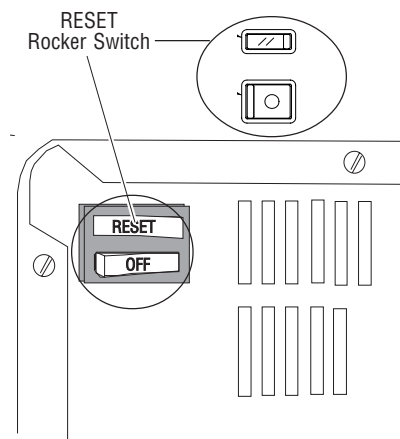
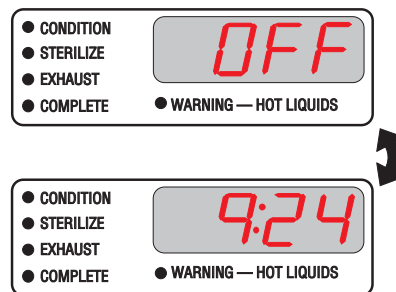
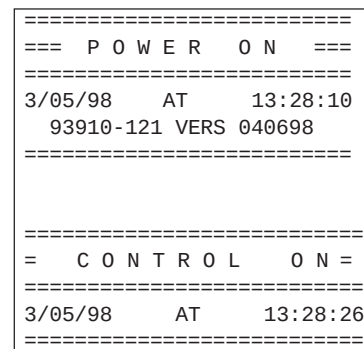

**Figure 3-9**
**Figure 3-10**
**Figure 3-11**
8. Press the RESET rocker switch on the rear of the sterilizer (Figure 3-9). The front panel display will alternate between OFF and time of day (see Figure 3-10). The optional printer will print "POWER ON" (see Figure 3-11).
9. Press the ON/STANDBY touch pad and verify that the indicator light turns on and TIME is displayed (see Figure 3-12). The heaters will begin to cycle to preheat the chamber. The optional printer will print "CONTROL ON" (see Figure 3-11).